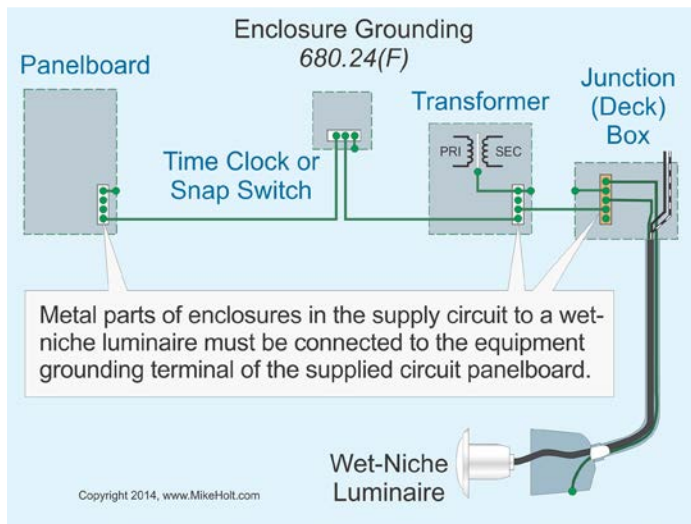

Figure 680–37
(F) Grounding. The metal parts of a junction box, transformer enclosure, or other enclosure in the supply circuit to a wet-niche luminaire must be connected to the equipment grounding terminal of the supplied circuit panelboard. *Figure 680–37*